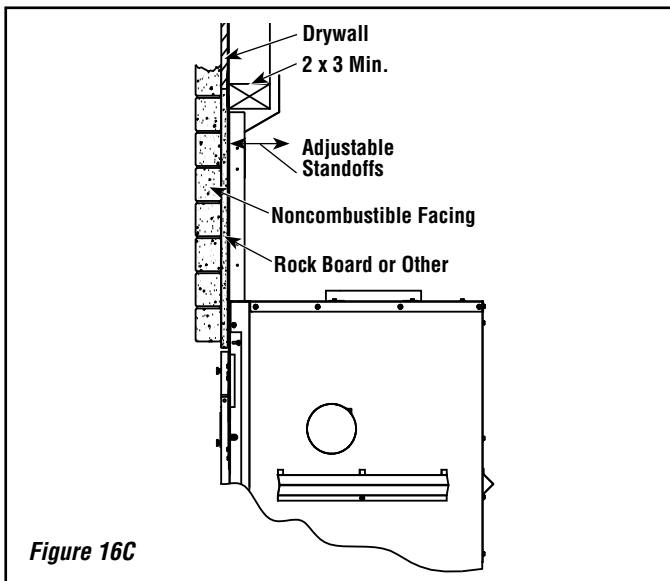

Figure 16C
2. Non-combustible materials such as brick, stone or ceramic tile may project in front of and onto the fireplace facing (Figure 16C).